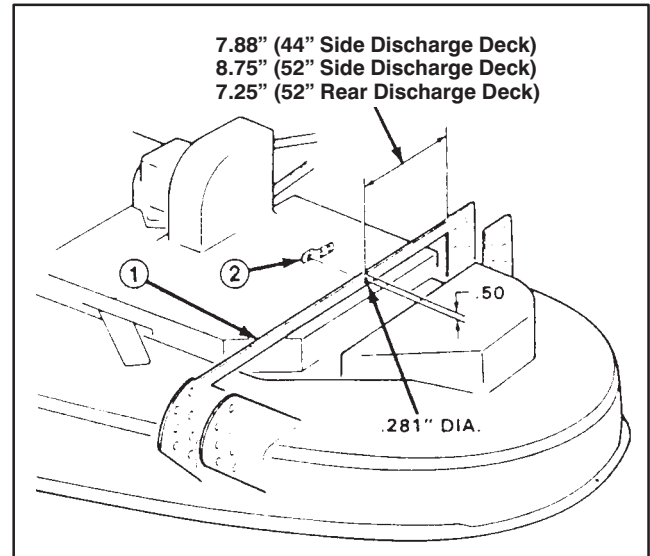
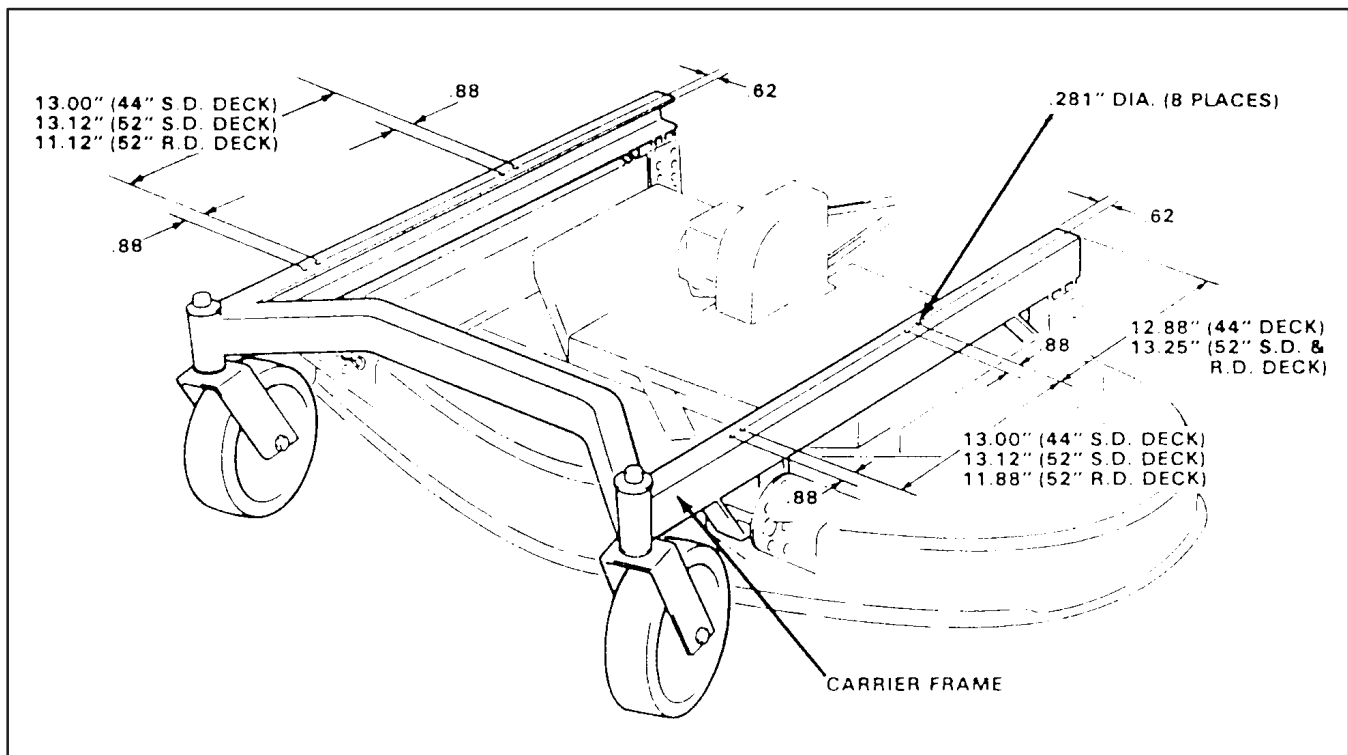

Figure 1
Figure 2
Note: Dimensions shown in (Fig. 1 and 2) pertain to both 44" and 52" cutting units unless otherwise specified. Use appropriate dimensions when locating holes. Cutting units with serial numbers of 60001 and up may have mounting holes drilled.
1. Using dimensions shown in (Fig. 1), locate and drill (2) .281" dia. holes in cutting unit deck support bars (one on each side).
2. Position anchor bracket on inside of deck support bar, aligning front hole with drilled hole (Fig. 1).
3. Using anchor bracket as a template, mark and drill (2) .281" dia. holes in each deck support bar. Clevis pin may be used to align holes when marking.
4. Mount anchor bracket to the inside of each deck support bar with (2) round head screws and locknuts. Position screw heads toward outside of deck.
5. Using dimensions shown in (Fig. 2), locate and drill (8) .281" dia. holes in carrier frame (4 in each side).